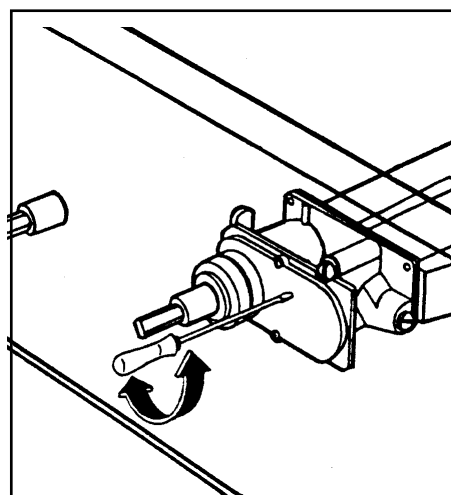

Fig. 33
- adjust with a thin screwdriver, see figure 33;